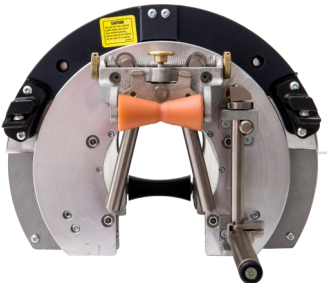

Figure 18
4. Open both the front and rear strand locks by pulling up on the release knob. There should be an audible "click" when the locks travel from the locked position to the open position. (See Figure 18)